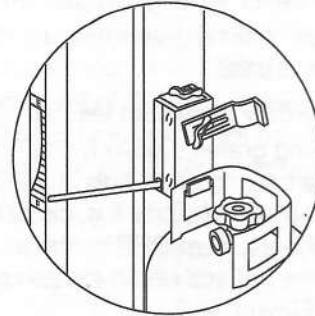

Figure 4
- 3) Loosen tank lock wing nut and turn tank lock up out of the way. Figure 4.
- a) Turn the LP tank so the opening of the valve is either to the front, side or rear of the Weber Genesis Gas Barbecue. Lift and hook the tank onto the fuel scale. Figure 4.